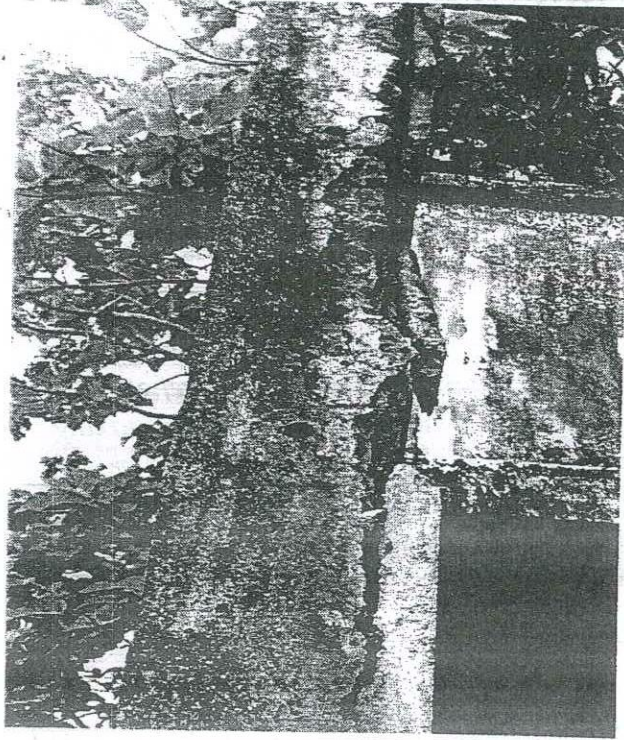

Fig. Q3 Deteriorated reinforced concrete column of an overhead water tank
b) Figure Q3 shows a view of a reinforced concrete column of an overhead water tank, deteriorated due to corrosion.